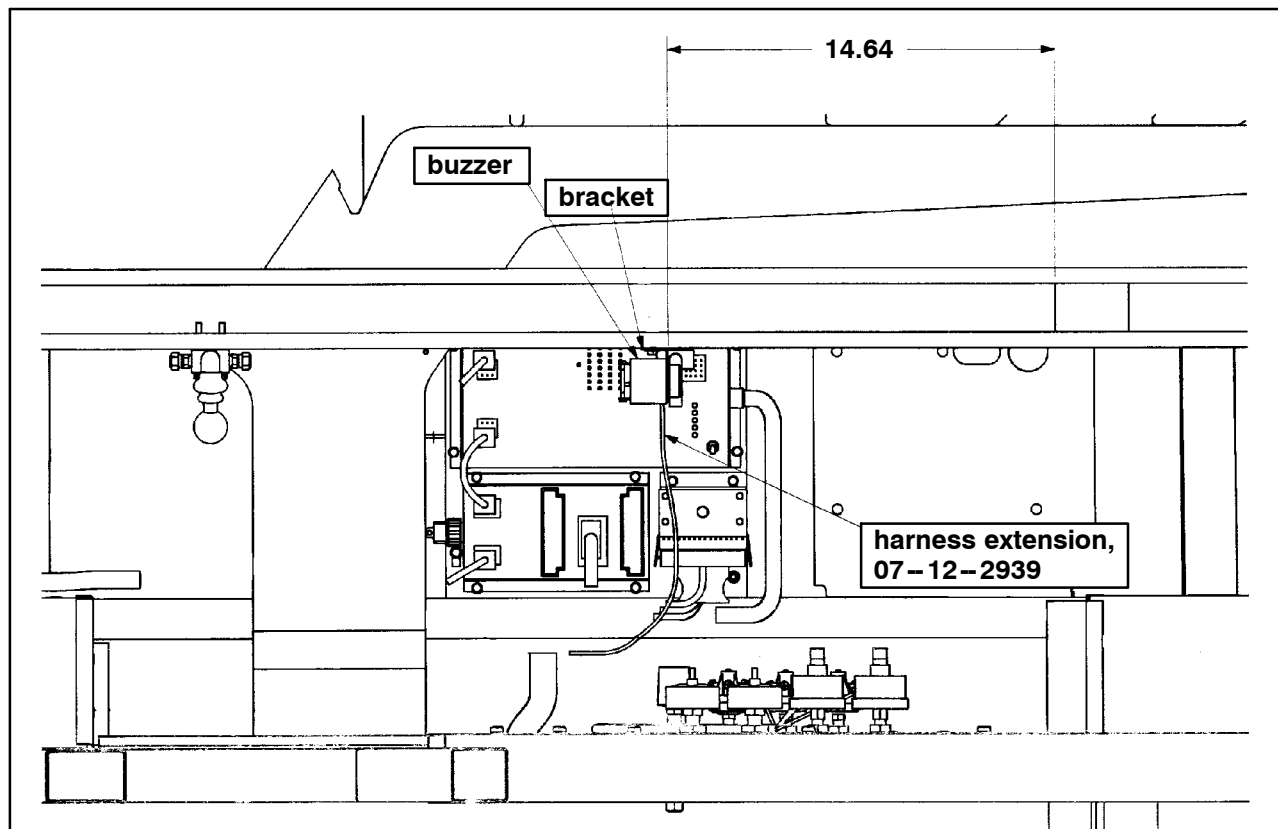

Figure 29.
- 45. Using a 0.149 dia. drill bit and the holes on the bracket, p/n 07-08-2796, as a template, drill two (2) holes at dimension shown in Figure 29. Using screws, p/n 19-1-758, install the bracket, p/n 07-08-2796.